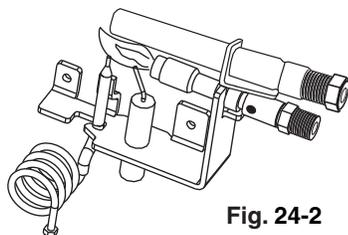

Fig. 24-2
2. If the ODS pilot flame does not touch the top of the thermocouple tip, then the main burner will not function properly (see Fig. 24-2 - for incorrect ODS pilot flame).